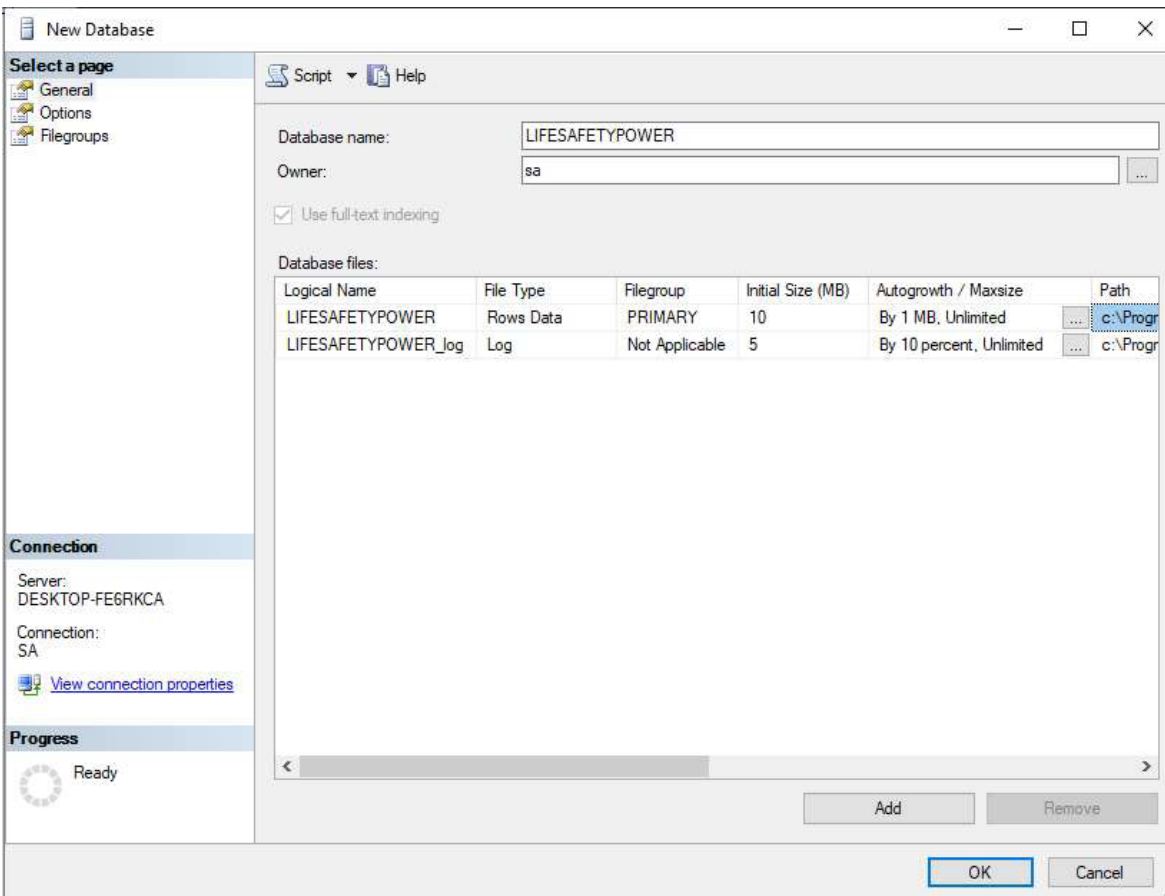

Figure 1
1. In Windows, open the **SQL Server Management Studio**. (Figure 1)